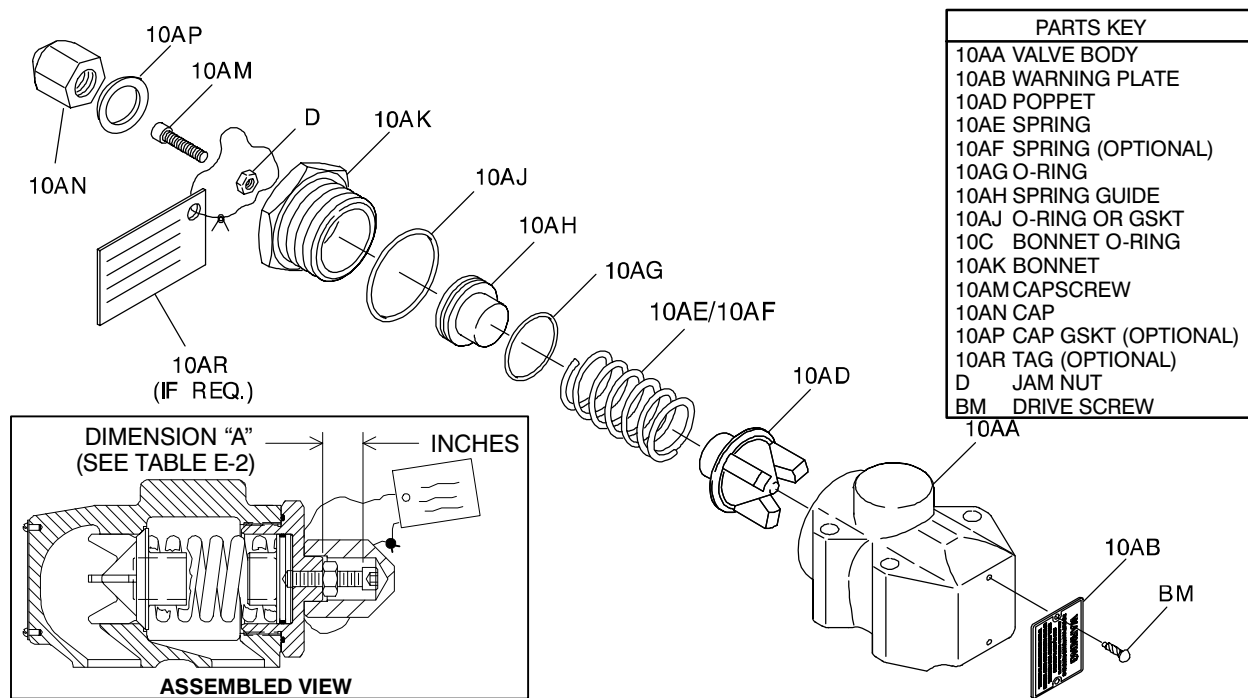

Figure E-7. Pressure Relief Valve Assembly
(Figure E-7)
Install the jam nut (D) on the adjustment capscrew (10AM), and thread the capscrew into the bonnet until the desired height ("A", Figure E-7) is reached. Refer to the separate Parts List accompanying your pump, and determine the specific hydraulic size. See Table E-2 and adjust the capscrew (10AM) to the proper "A" dimension for desired cracking pressure.